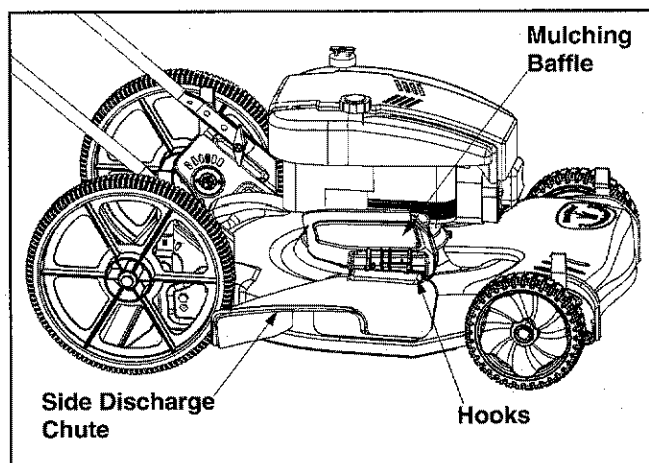

Figure 7
- Slide the hooks of the side discharge chute under the hinge pin on the mulching baffle. Make sure that the hooks snap into place, locking the chute firmly onto the mower. See Figure 7.